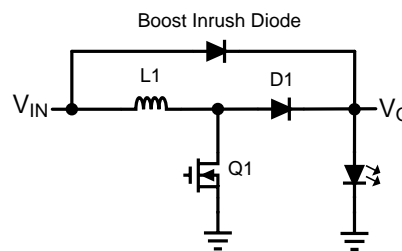

Figure 30. Boost Topology with Inrush Diode
- Add an inrush diode from  $V_{\text{IN}}$  to the output as shown in Figure 30.